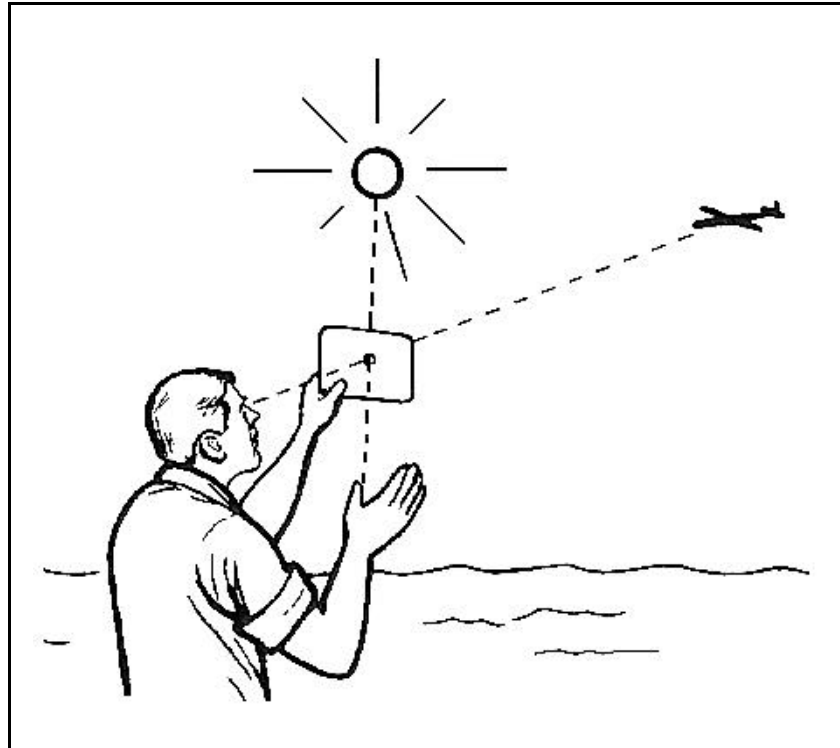

Figure 10-30. Signaling Mirror
- **Signaling mirrors.** Read the instructions for the particular kind of signaling mirror in your survival equipment. Do not wait until you see a rescue craft to use the signaling mirror. When the sun is shining, flash the mirror all around the horizon (Figure 10-30, page 10-34). An aircraft can spot the flash long before you would see the aircraft. The signaling mirror may save your life. Use it as long as the sun is shining.